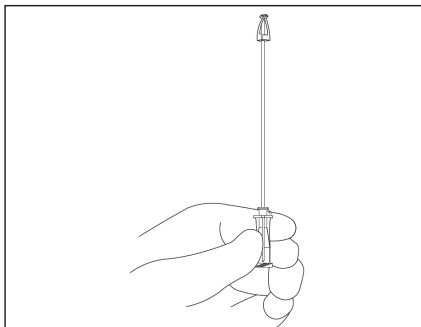

Figure 19
- In one continuous motion, advance clip housing over needle bevel activating safety mechanism. The clip will remain on the needle bevel (refer to Figure 19). The clip housing will separate from the clip and needle.